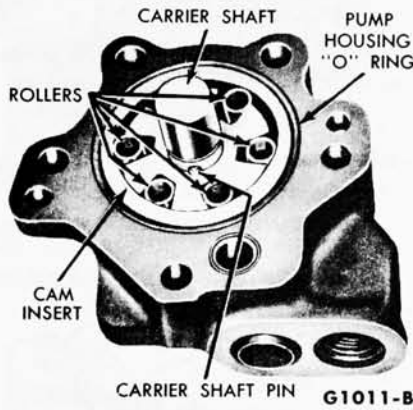

FIG. 23—Pump Housing Carrier and Shaft
6. Remove the "O"-rings from the flow director and the carrier insert (Fig. 23).
9. Slide the carrier off the shaft and remove the carrier shaft pin (Fig. 23).
4. Place a new "O"-ring in the groove around the insert in the pump housing, and install a new flow "O"-ring in the face of the housing (Fig. 23).